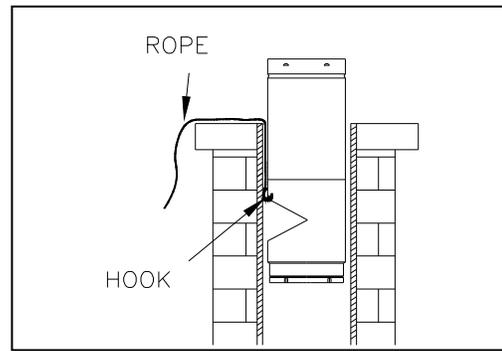

Fig. 10
4. To lower the liner into the chimney, we suggest that you tie a small hook to a long rope and grip the hook on the tee (LT). Make sure the rope is on the outside of the liner, so you will be able to add lengths and lower the assembly down the chimney (fig. 10). Add lengths (LL) until the liner protrudes about 10" above the masonry chimney top.